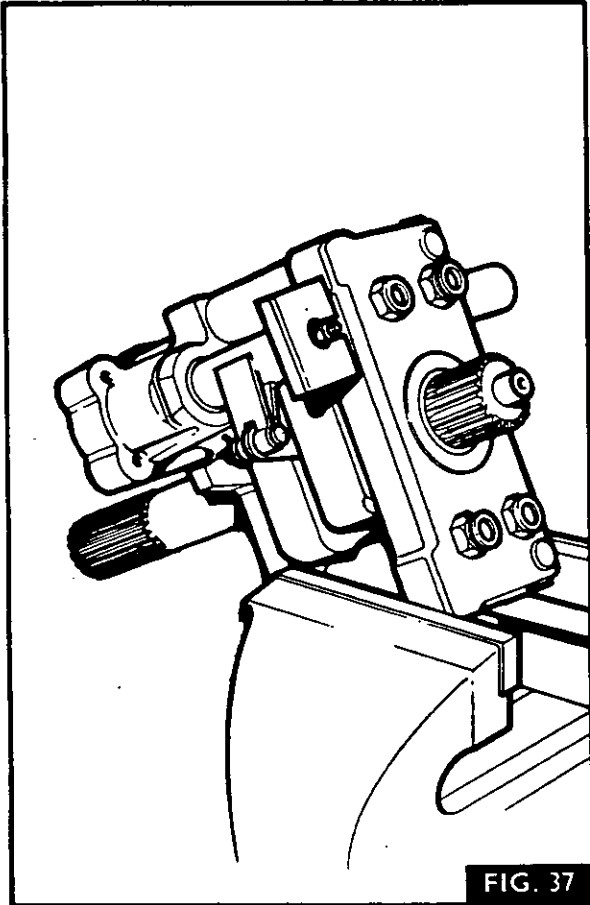

FIG. 37
8. Fig. 37. Locate the washer (100) and the sleeve (101) in the rear body (99).